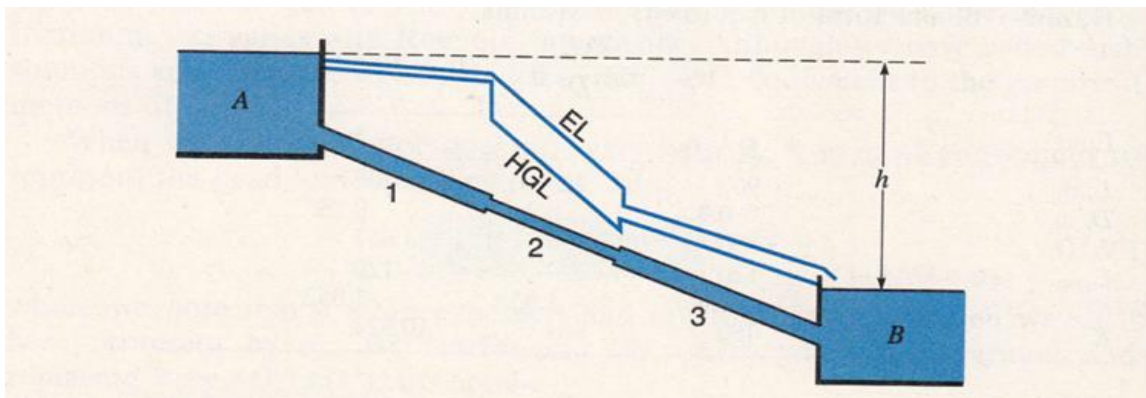

Figure 2.1
- The pipes 1, 2 and 3 in the figure 2.1 are 300m of 30cm diameter, 150m of 20cm, 250m of 25cm diameter respectively, of new cast iron conveying  $15^\circ\text{C}$  of water. If  $h = 10\text{m}$ , find the rate of flow from A to B. Estimate the friction factors using the moody diagram.